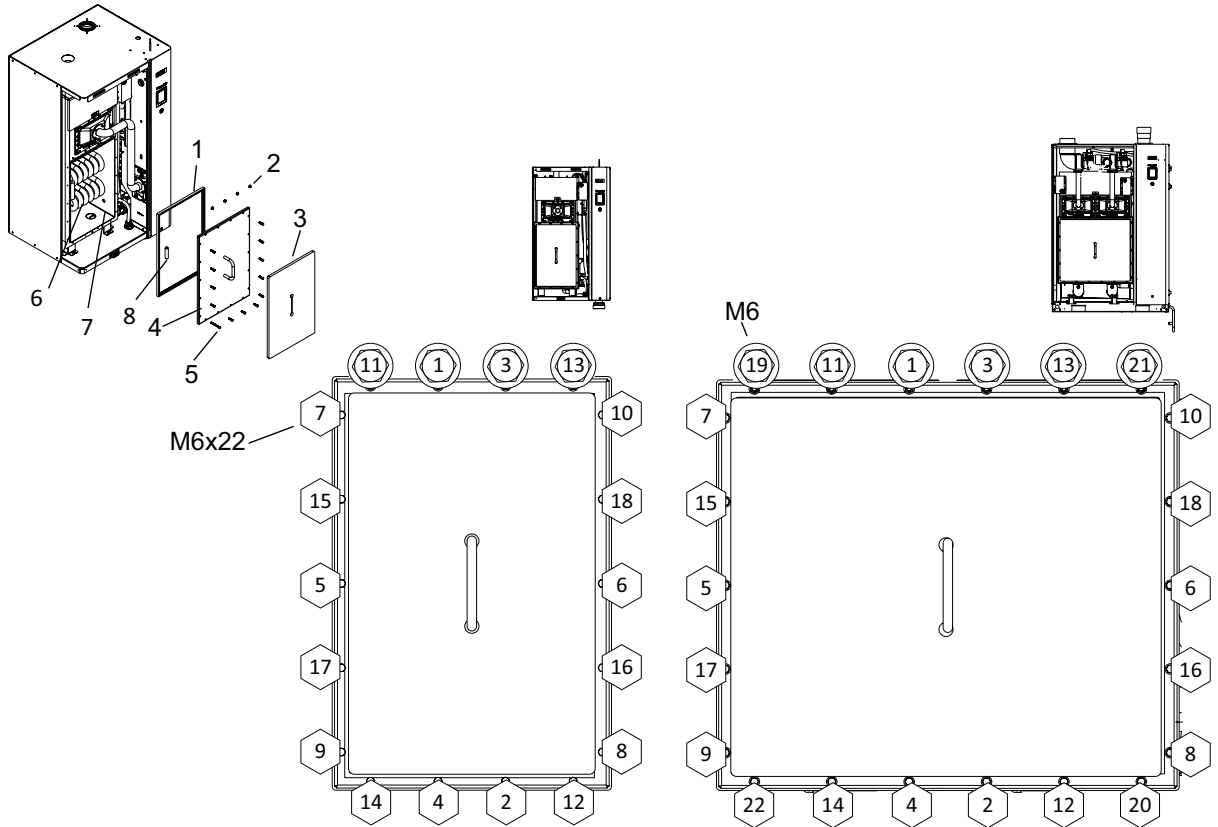

Figure 10: Tank Door Torque Sequence
Clean the inside of the tank, the outside of the primary heat-exchanger coils and the drain fitting as follows. Refer to Figure 10 on page 51. It is not necessary to remove the tank from the unit in order to clean it.
8. Install a new tank gasket and secure the tank cover to the tank. **Note:** The order of torquing the bolts for the tank cover are shown in the hexagonal symbols in Figure 10 on page 51. Tighten bolts with your fingers and torque at the end of assembly. (*What is the max torque?*)